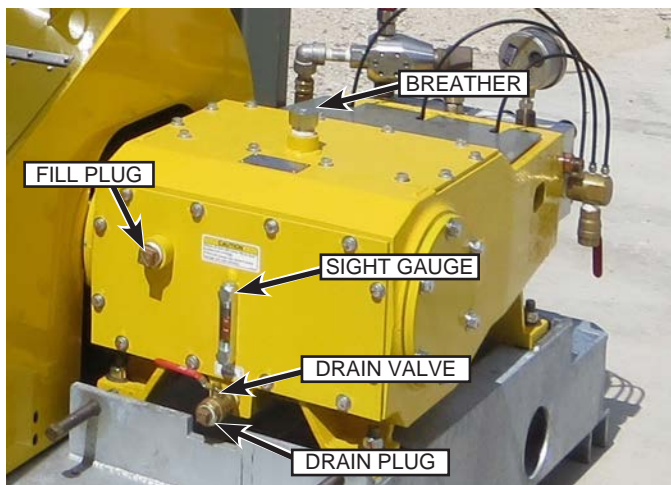

Fig. 114: Oil Check and Change
1. Locate the sight gauge (Fig. 114) on the back of the power end case. With the pump off (for 5 to 8 hours), the oil should be at the Full level.
1. With the motor off, remove the drain plug (Fig. 114) from the oil drain valve located on the back of the power end case.